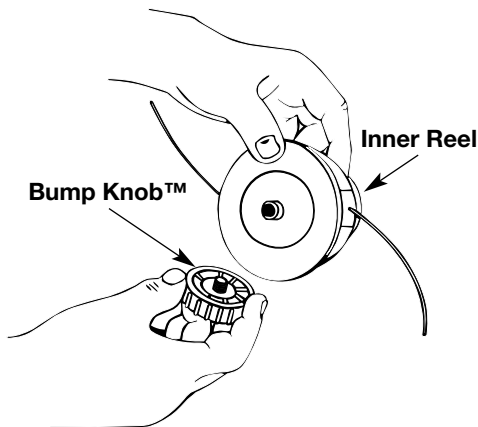

Fig. 21
1. Hold the outer spool with one hand and unscrew the Bump Knob™ counterclockwise (Fig. 21). Inspect the bolt inside the Bump Knob™ to make sure it moves freely. Replace the Bump Knob™ if damaged.
1. Hold the outer spool with one hand and unscrew the Bump Knob™ counterclockwise (Fig. 21 Pg. 16). Inspect the bolt inside the Bump Knob™ to make sure it moves freely. Replace the Bump Knob™ if damaged.